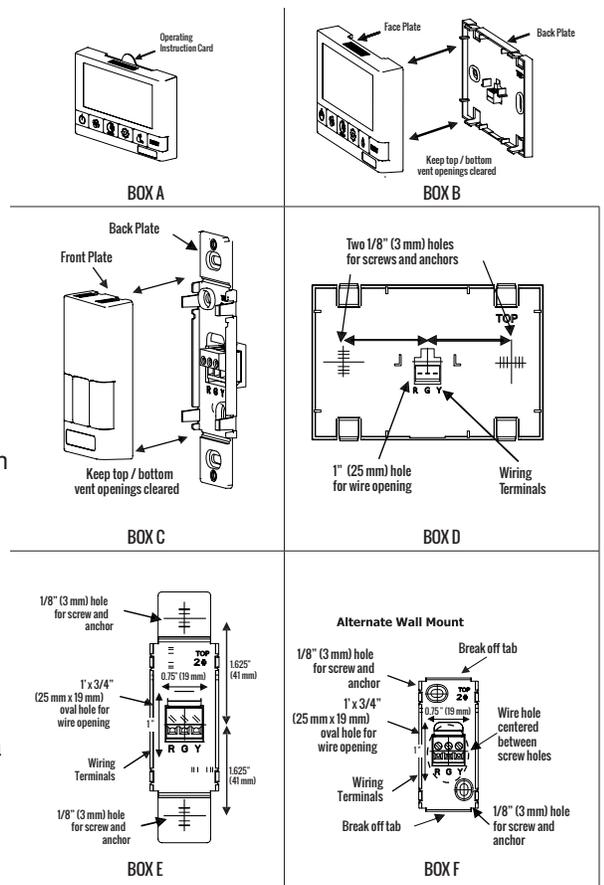

Figure 30. Installation of Controls
2. For mounting the control without a decorative plate, break off top and bottom tabs and refer to Figure 30, Box C for mounting.